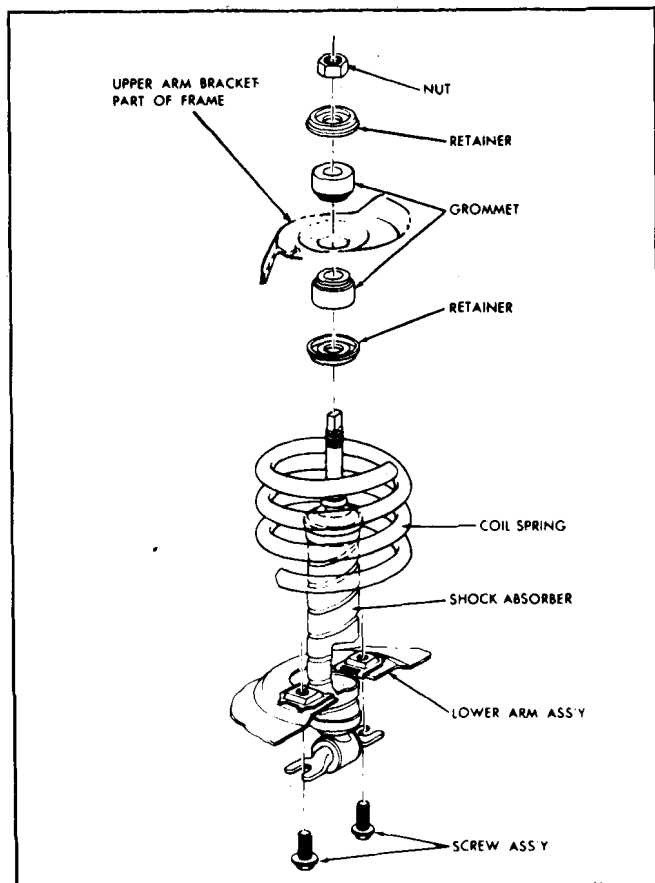

Fig. 3-19 Shock Absorber Installation
1. Remove nut, retainer and grommet which attach upper end of shock absorber to frame bracket (Fig. 3-19).
1. Install shock absorber by reversing the above steps (Fig. 3-19).